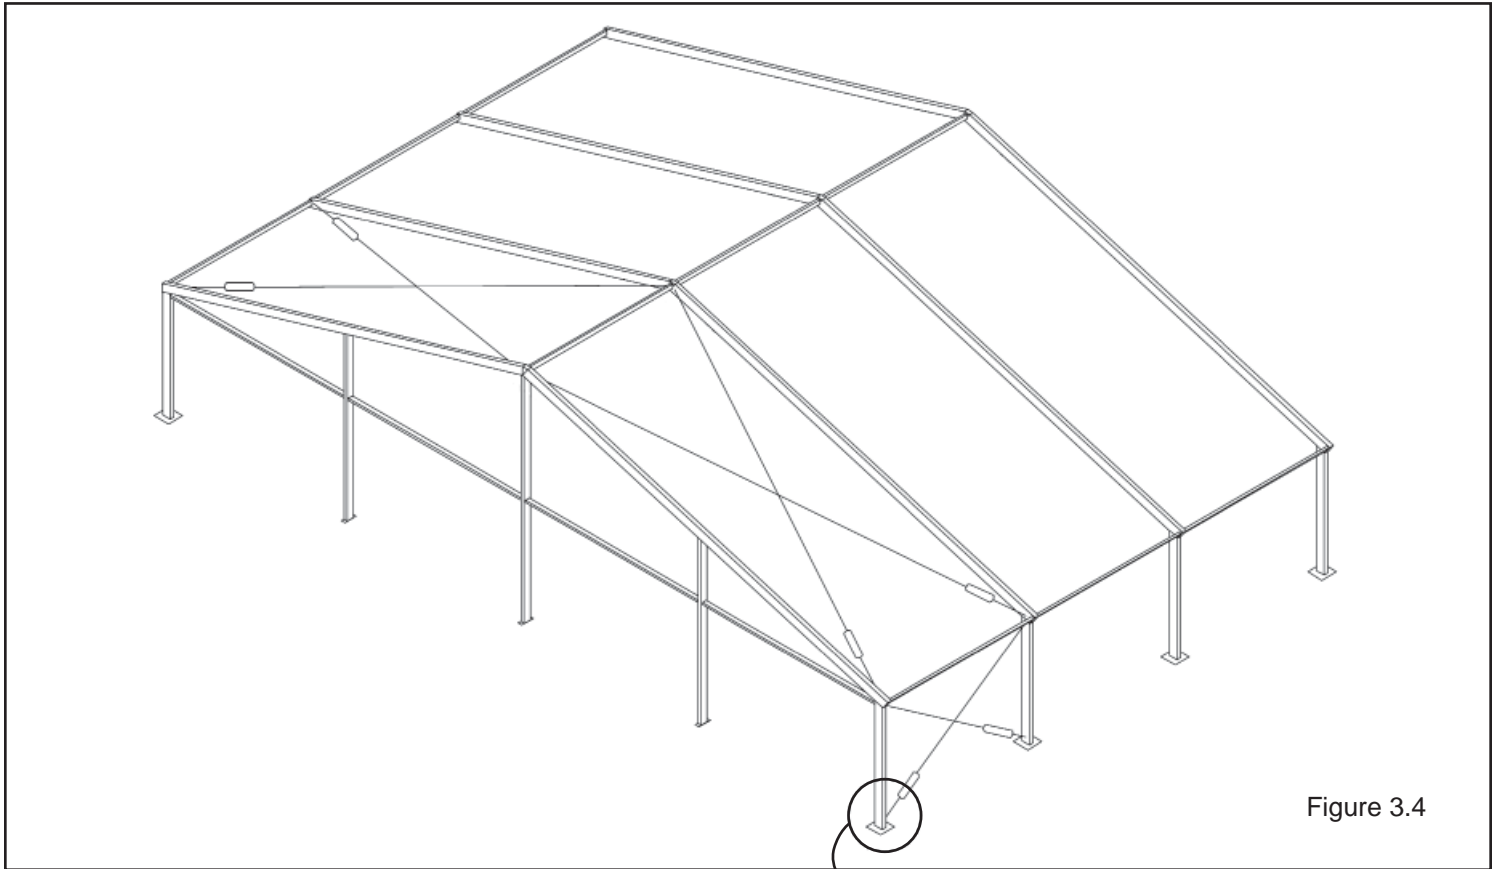

Figure 3.4
3.4 Completing Installation of Upright and Roof Cable Bracing: Turnbuckles may need to be fully extended to attach cables. Refer to Figure 3.4 for cable configurations required for the Upright and Roof Cable Bracing.